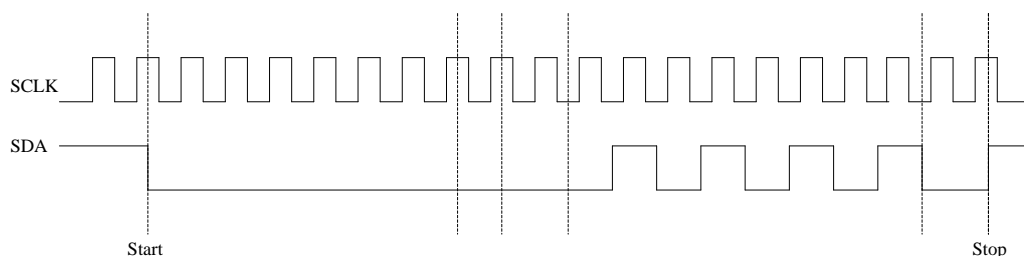

Figure 3-5 Time sequence of IIC protocol
- From the above Figure 3-5, where SDA jumps from high to low when SCLK=1 indicates the "start" of the data output, and then; Address (0x00), Write operation (0), response bit (High Z), 1 Byte data (01 code pattern), response bit (High Z). The data output stops when SDA jumps from low to high when SCLK=1.
- 3) Data in D0 and D1 can be edited with reference to Figure 3-5. While D2 is the Mask Channel, setting the corresponding bits of D1 (Tri-state